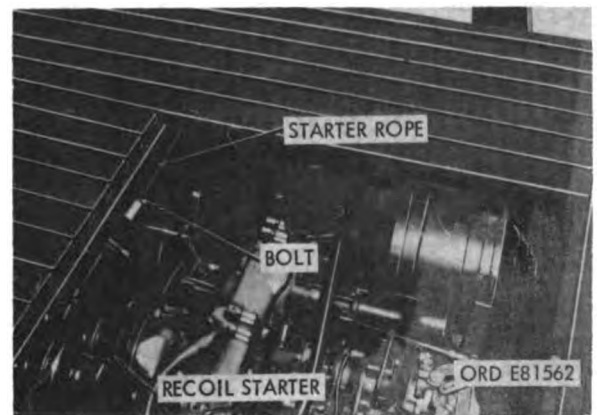

Figure 2-16. Wire cable retracted from starter pulley housing.
*g. Pull approximately three feet of cable out of recoil starter and secure by looping around a 1/2-inch bolt (or an object similar in shape) near the end of the rear starter cable guide tube (fig. 2-16).*